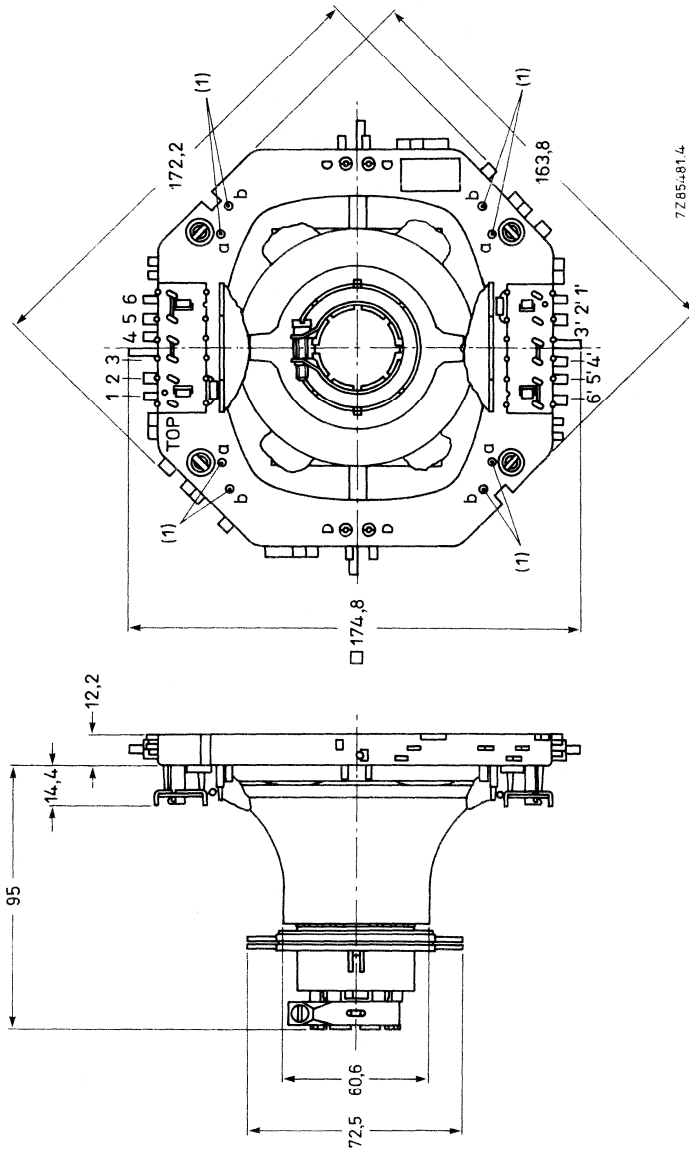
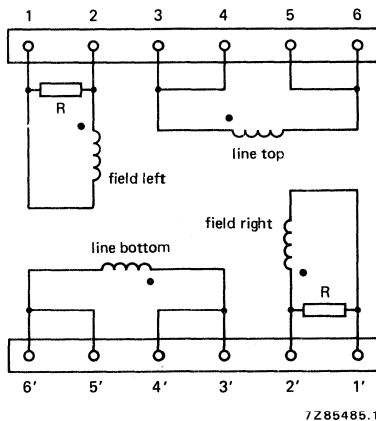

Fig. 1 Deflection units AT 1039/20 and AT 1039/21.
Fig. 2 Diagram of line and field coils; R = 270 Ω . The beginning of the windings is indicated with ●.
If a further improvement of raster geometry is required use can be made of correction magnets*, which must be fitted to mounting posts (1); posts a to be used for AT 1039/20, posts b for AT 1039/21. The unit has solder pins for connection. The pin numbering in Fig. 1 corresponds to that in Fig. 2.